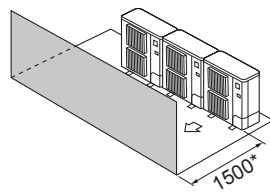

Fig. 2-11
- ③ Solo ostacoli anteriori (Fig. 2-11)